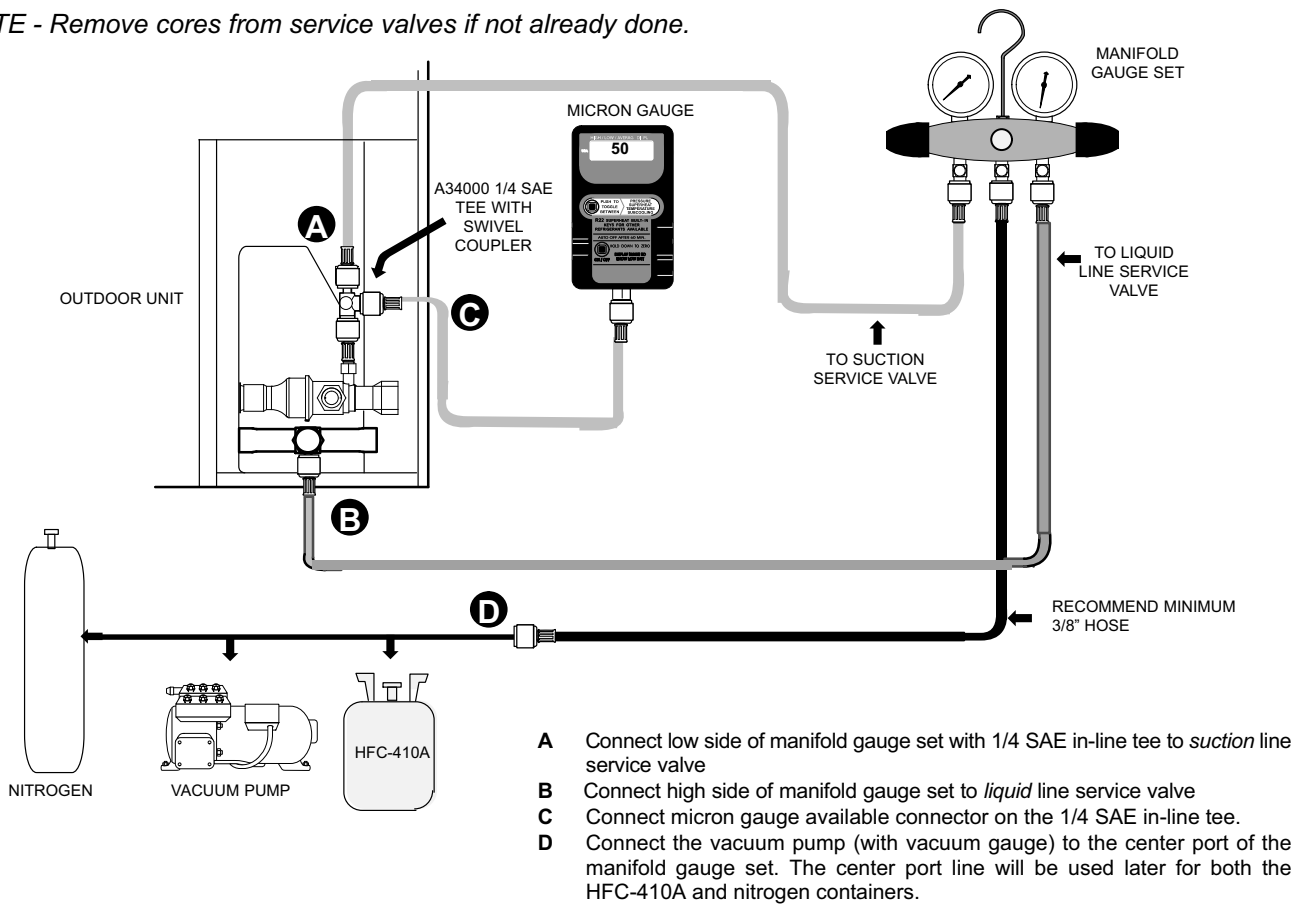

FIGURE 13
1. Connect an HFC-410A manifold gauge set as illustrated in figure 13.